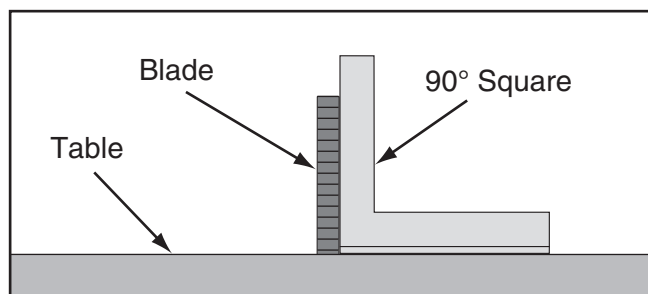

Figure 98. Checking blade at 90°.
3. Place a 90° square against the table and blade so it contacts the blade evenly from bottom to top, as shown in **Figure 98**. Make sure a blade tooth does not obstruct the placement of the square.